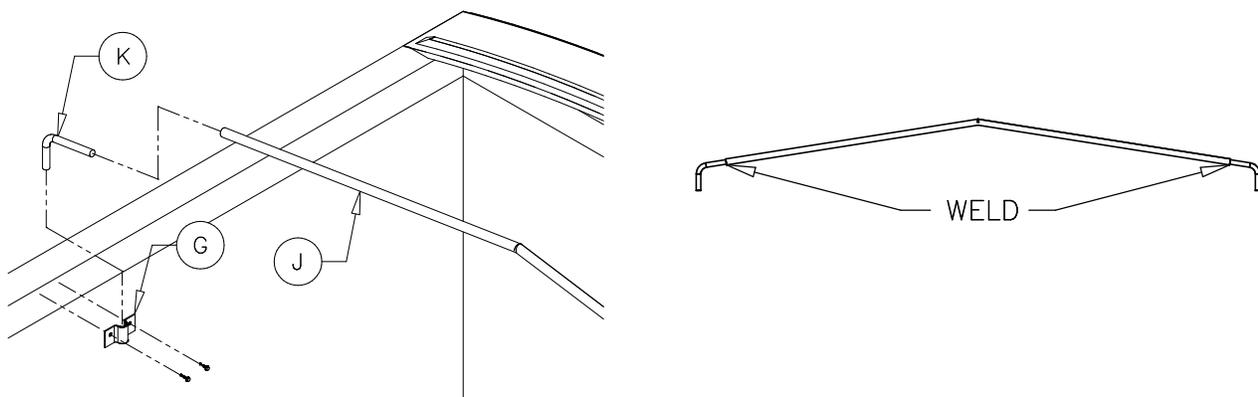

Figure 3
(See Figure 3)
**Procedure:** Three, four or five hoops (J) are provided according to the length of the trailer. Equally space the hoop holders (G) along the length of the trailer and locate the top edge of the hoop holder 1inch down from the top edge of the inside trailer wall. Once in place mark the position of the hoop holder and drill two 3/16" holes into the trailer wall. Secure the hoop holder using the 1/4"x1" lag screws provided. Follow this procedure to the remaining hoop holders making sure that they are at the same level, equally spaced, and directly across from each other. Insert bent angle (I) with one end fitted into the hoop holder (G) and the other end in the hoop (J), then repeat for the opposite side of the trailer. Measure the vertical distance from the inside of the trailer floor to the top center of the front or rear hood. Record the measured distance. Center the hoop on the bent angles (I) and measure the vertical distance from the inside trailer floor to the top center of the hoop. The measurement to the top of the hoop should be 3/4 inch greater than the distance from the trailer floor to the top of either hood. If the distance is less than or greater than the required 3/4 inch, adjust the hoop and bent angles accordingly. Weld the hoop to the bent angles making sure that the hoop is parallel with the bent angles (see Figure 3).